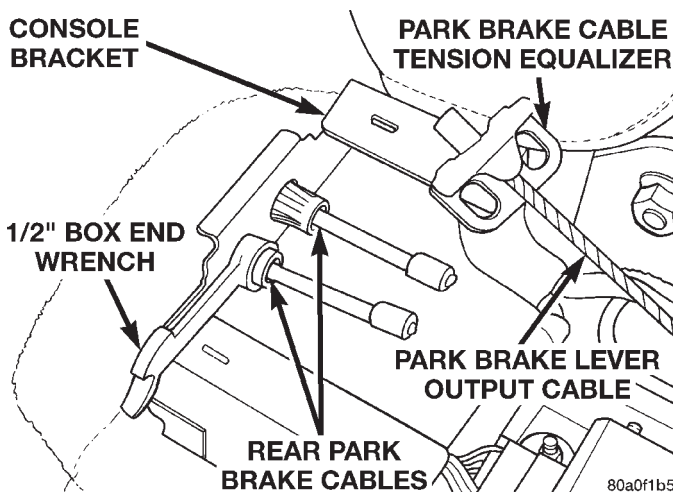

**Fig. 139 Compressing Park Brake Cable Retaining Tabs**
(18) Install the box end of a 1/2 in. wrench over the park brake cable retainer as indicated in (Fig. 139). This will compress tabs on park brake cable retainer, allowing cable to be removed from console bracket. From under carpet, grasp park brake cable housing and pull cable straight out of console bracket.